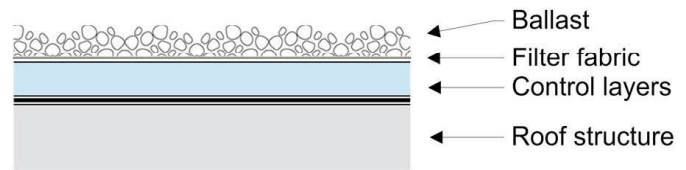
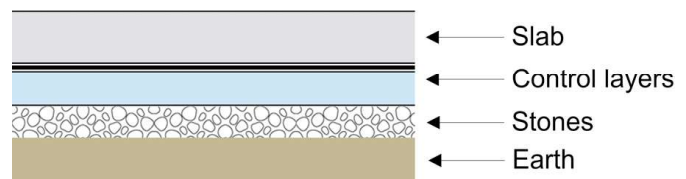
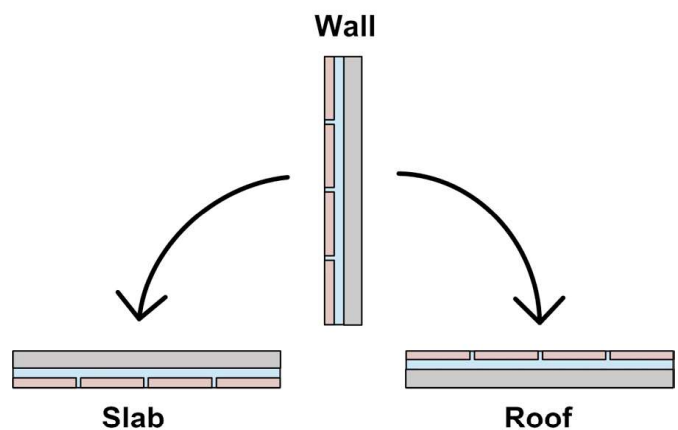

Figure 2: “The Perfect Roof”
Figure 3: “The Perfect Slab”
Figure 4: A Wall Is A Roof Is A Slab
In a beautiful bit of elegance and symmetry if you lie the perfect wall down you get the perfect roof (**Figure 2**) and then when you flip it the other way you get the perfect slab (**Figure 3**). The physics of walls, roofs and slabs are pretty much the same – no surprise (**Figure 4**). This insight was shone into a whole generation of practioners by Max Baker (4) when I was first getting started.